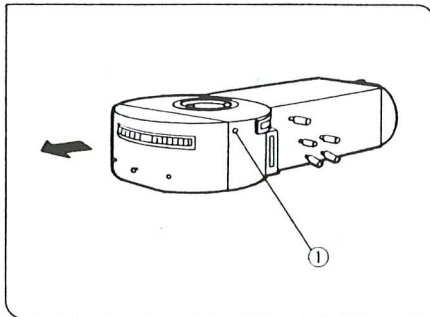
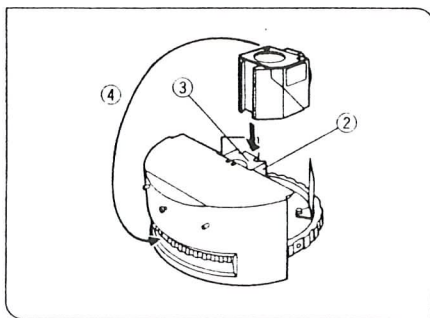

Fig. 1
Fig. 2
(Figs. 1, 2, 3)
1. Using the Allen screwdriver provided with the microscope, loosen the clamping screw (1) at the right side of the vertical illuminator. (Fig. 1)
2. Pull out the turret in the direction indicated by the arrow, then invert the turret so that the cube dovetail mounts (2) point upward. (Dummy plates are mounted in three of the four cube positions. When you wish to use only one cube, mount it in the empty position. When using two or more cubes, loosen the clamping screw (3) and remove the dummy plate(s) by pulling in the direction indicated by the arrow, and then mount the actual cube(s) instead.)
3. Hold the cube to be mounted with the index side facing upward and slide it all the way onto the dovetail mount. Then tighten the cube clamping screw (3) immediately. (Tighten all four cube clamping screws.)
4. Remove the cube's magnetic index sticker (4)\* and affix it to the turret. (Fig. 2)
(Fig. 1)